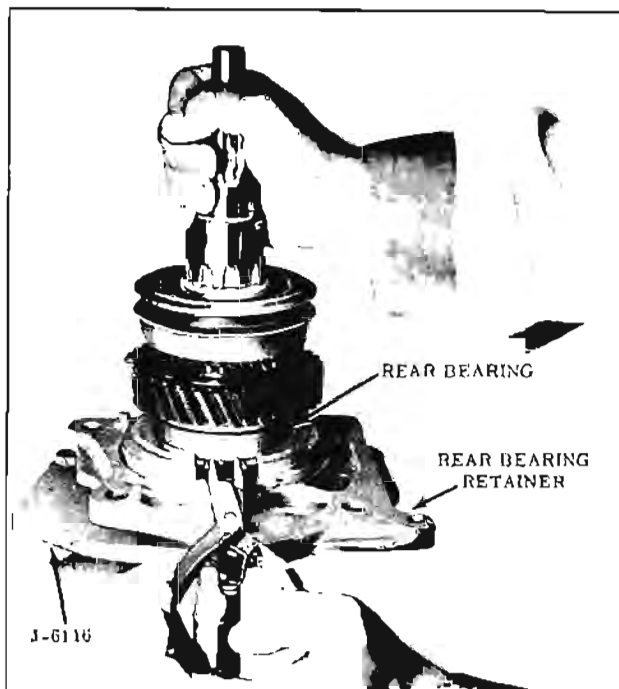

Fig. 11-243 Installing Rear Bearing Retainer
8. Install the rear bearing retainer as shown. Spread the snap ring in the retainer to allow the snap ring to drop around the rear bearing then press on the end of the main shaft until the snap ring engages the groove in the bearing. (Fig. 11-243)